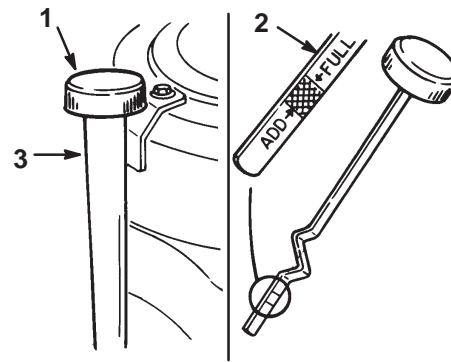

Figure 26
2. Clean around the oil dipstick (Fig. 26) so dirt cannot fall into the filler hole and damage the engine.
3. Unscrew the oil dipstick and wipe the metal end clean (Fig. 26).
4. Slide the oil dipstick fully into the filler tube, do not thread onto tube (Fig. 26). Pull the dipstick out and look at the metal end. If oil level is low, slowly pour only enough oil into the filler tube to raise the level to the full mark.
7. Slowly pour approximately 80% of the specified oil into the filler cap (Fig. 26). Refer to Servicing the Engine Oil, page 26.